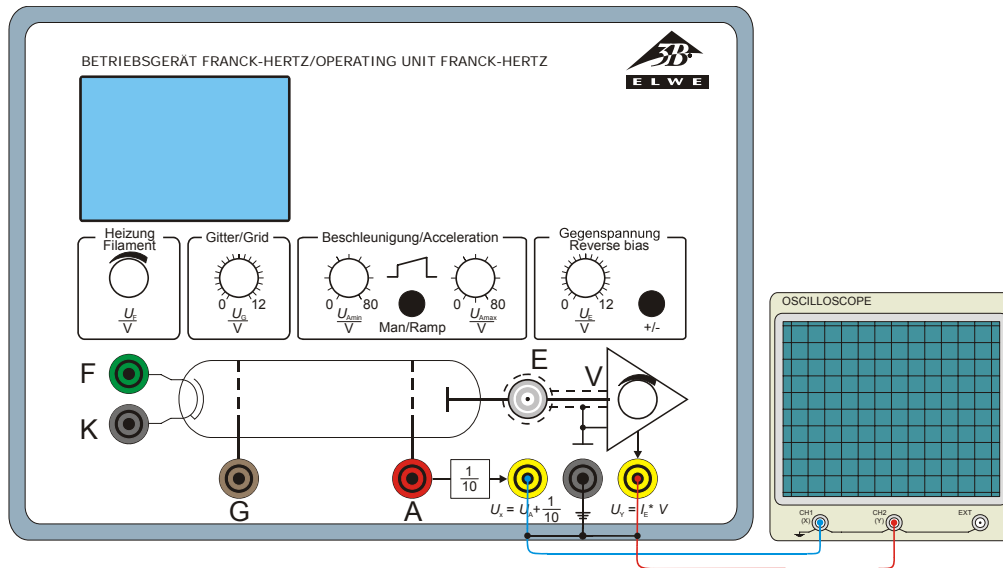

Fig. 7 Connection of oscilloscope to the control unit for the Franck-Hertz experiment
- Connect the U_x output of the control unit to Channel 1 (X deflection) of the oscilloscope and output U_y to Channel 2 (Y deflection) (see Fig. 7).